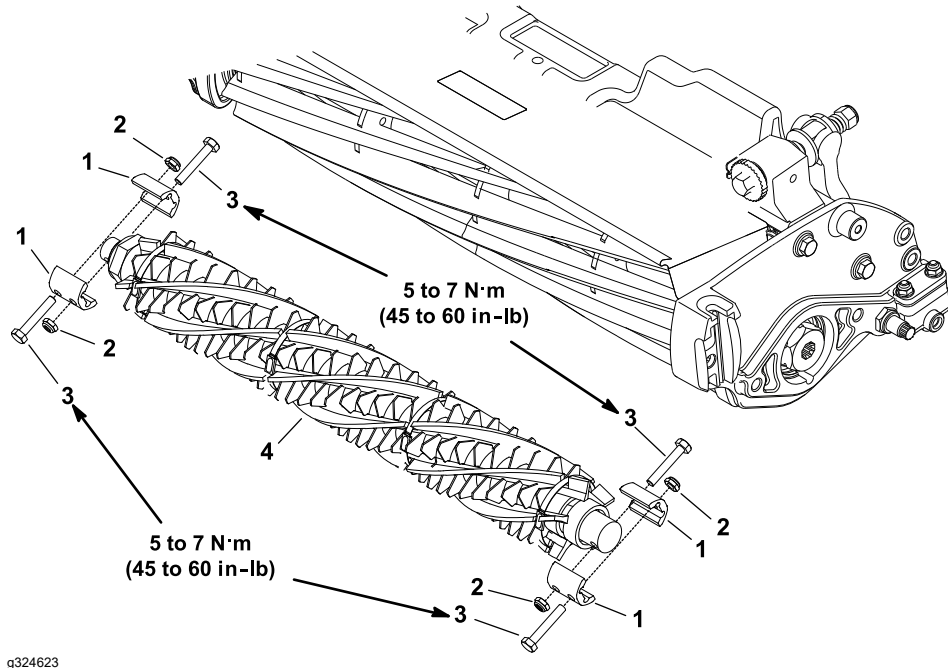

Figure 9
2. Carefully remove the 4 jam nuts (item 2 in Figure 9), 4 bolts, and 4 shaft clamps that secure the groomer reel to the output and stub shafts.